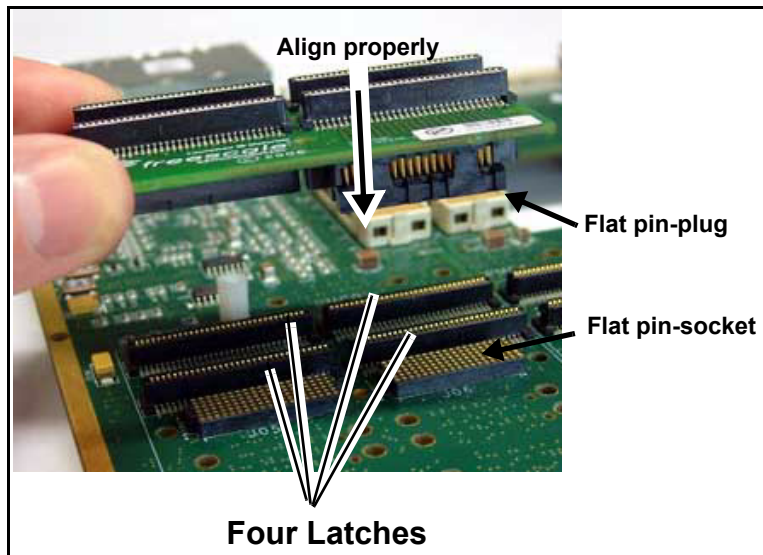
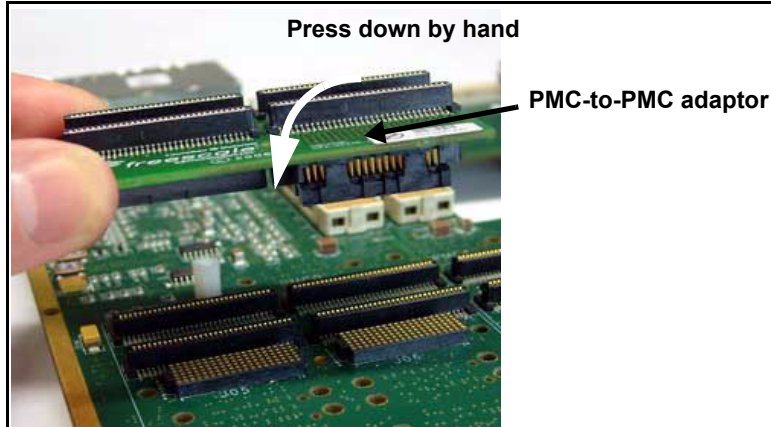

Figure 6-4. Fastening PMC-to-PMC adaptor (A)
Figure 6-5. Fastening PMC-to-PMC adaptor (A)
2. Fasten PMC-to-PMC adaptor to PIB as shown in Figure 6-4 and Figure 6-5 (fasten to the PMC0 slot only). Ensure that the four latches are tightened properly, in addition to ensuring that the flat pin-plug fits properly to its socket.